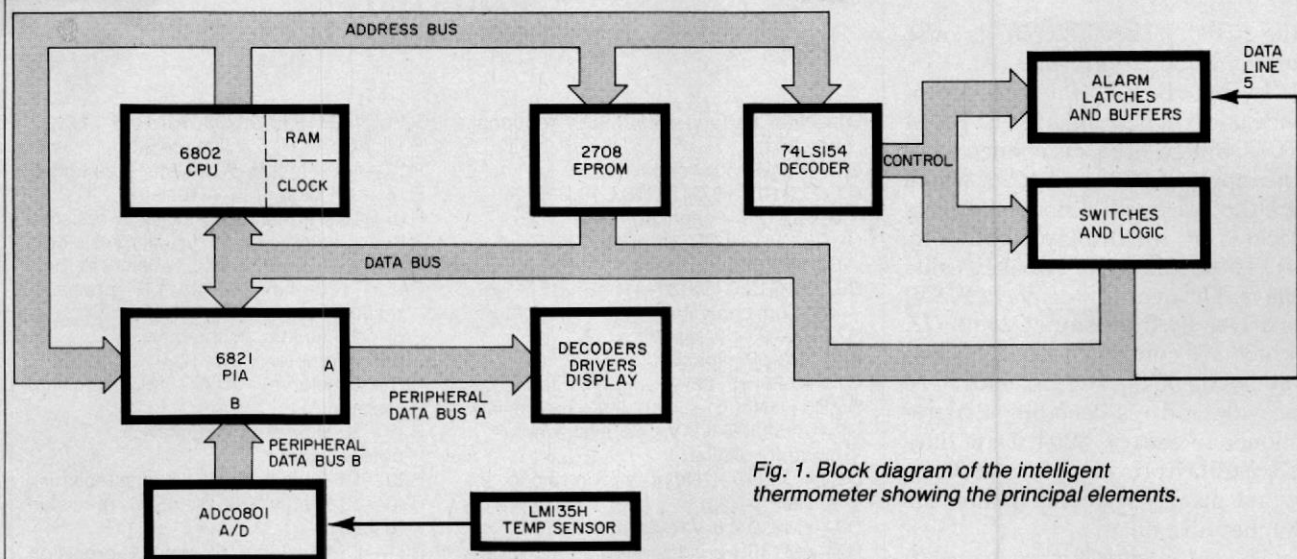

Fig. 1. Block diagram of the intelligent thermometer showing the principal elements.
**About the Circuit.** A block diagram of the thermometer is shown in Fig. 1. Its memory map is given in Fig. 2. The 6802 CPU is basically the same as a 6800 with the added features of an internal clock oscillator and driver, plus 128 bytes of RAM. The first 32 bytes of RAM can be retained in the low-power